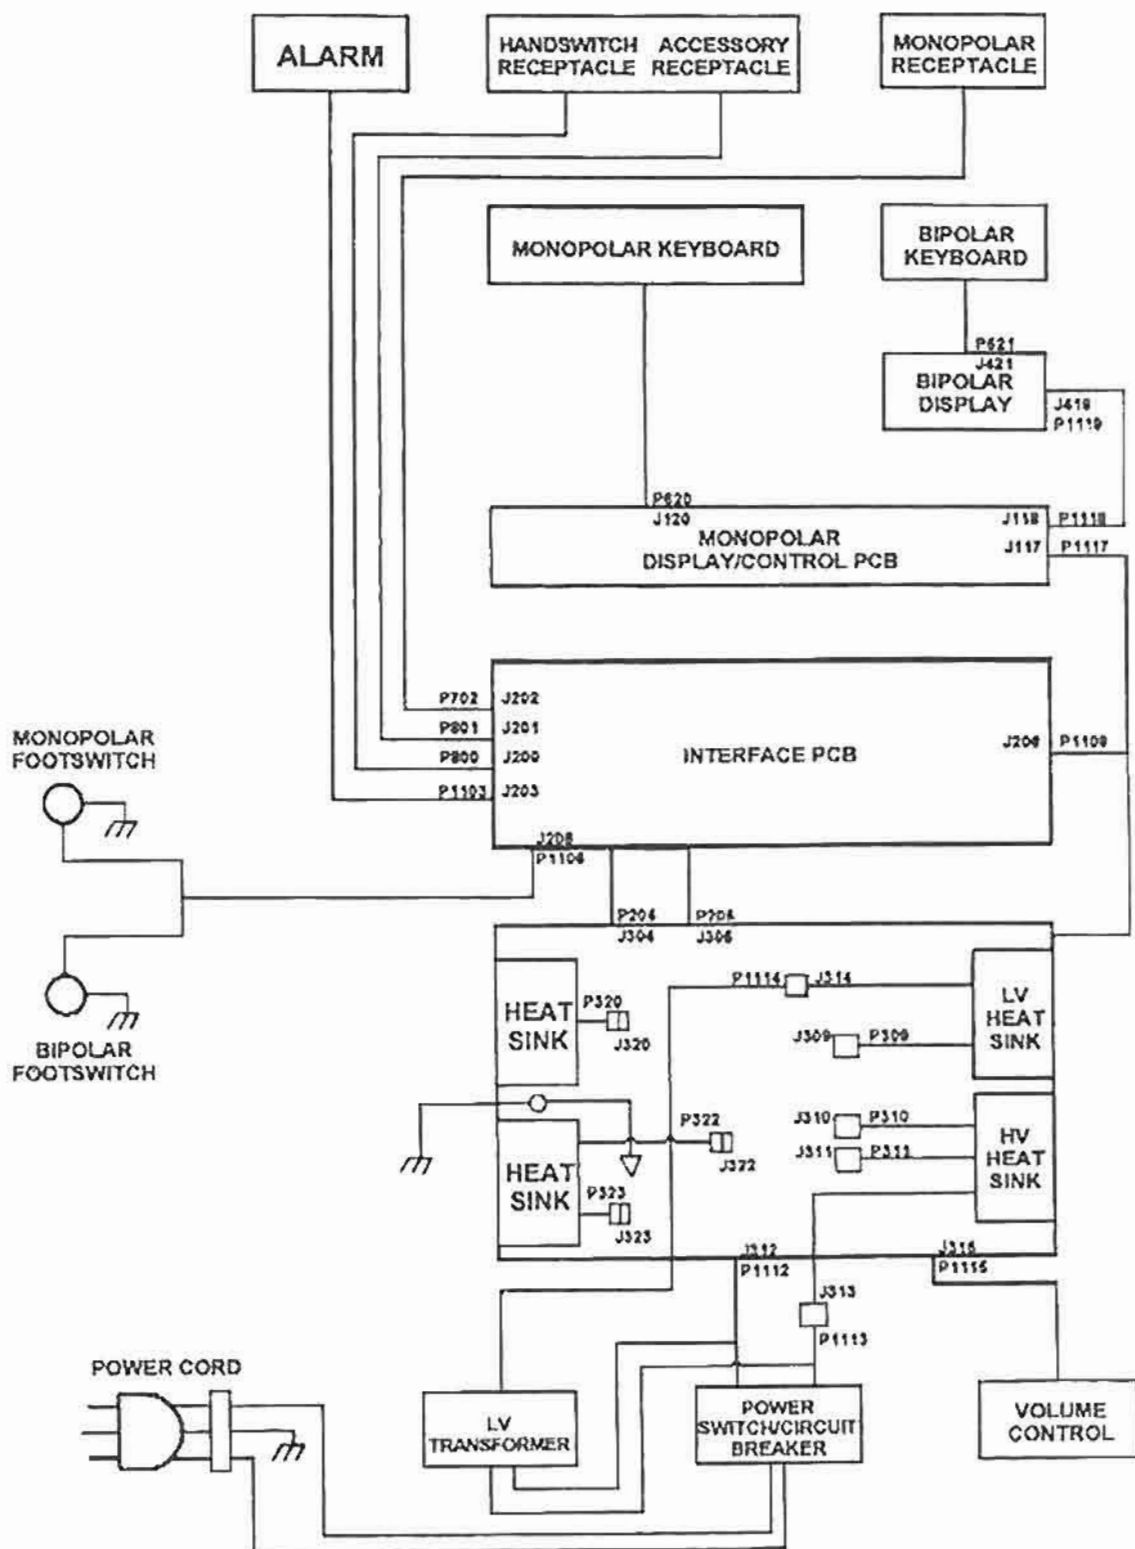

Figure 3-21. System diagram.
b. The system diagram depicts the relationship between PCBs, switches, operational controls, and other major components. Refer to figure 3-21.